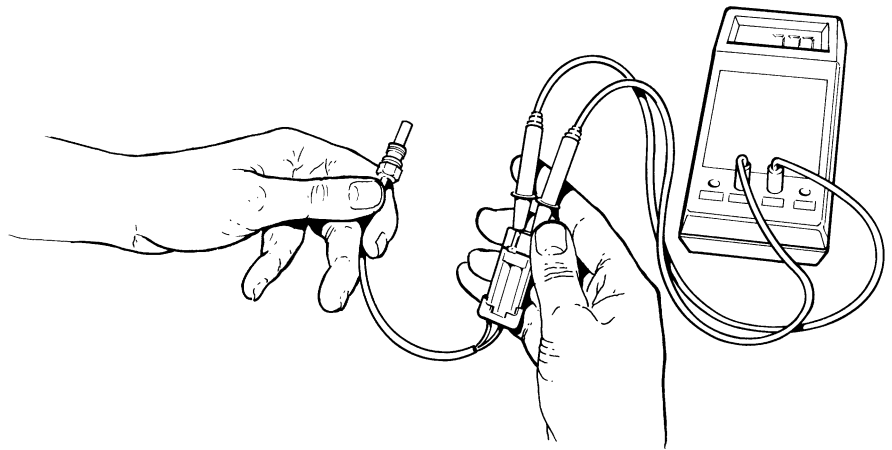

Figure 5-19 Temperature Sensor Test
- a) Connect a multimeter (adjusted to measure resistance) to the temperature sensor as per Figure 5-19. The polarity of the sensor connections to the multimeter is not important.